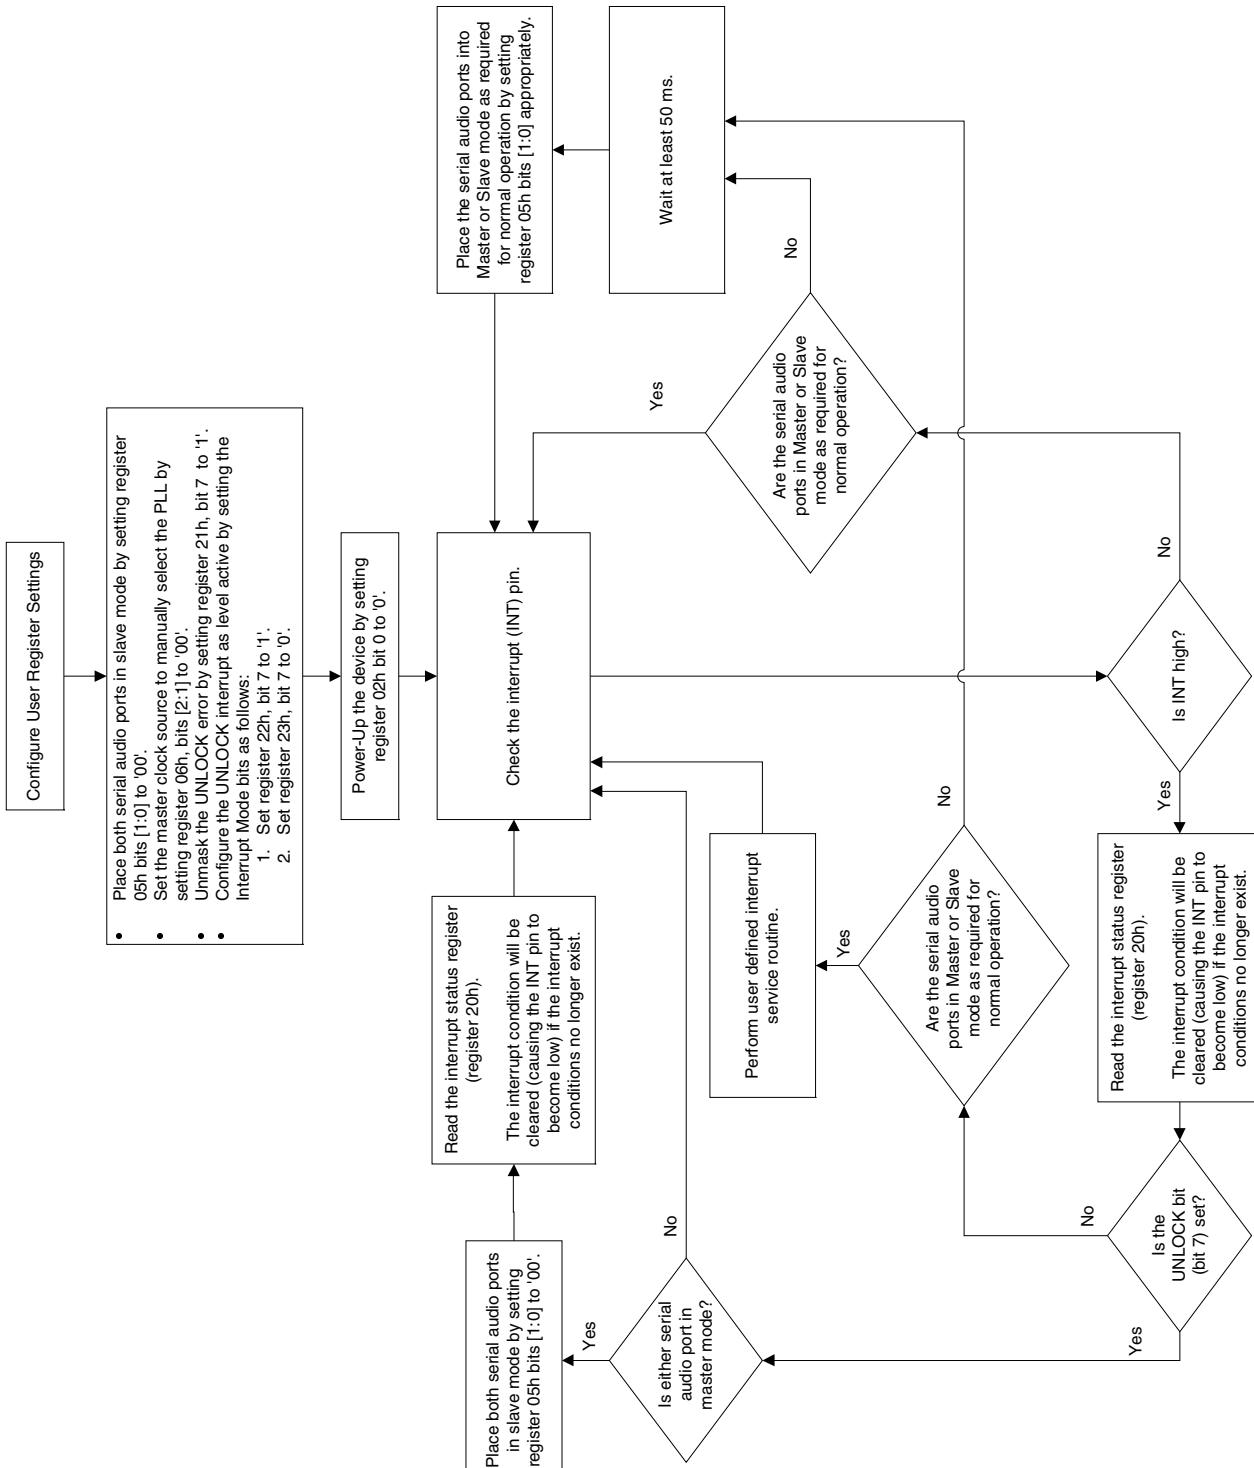
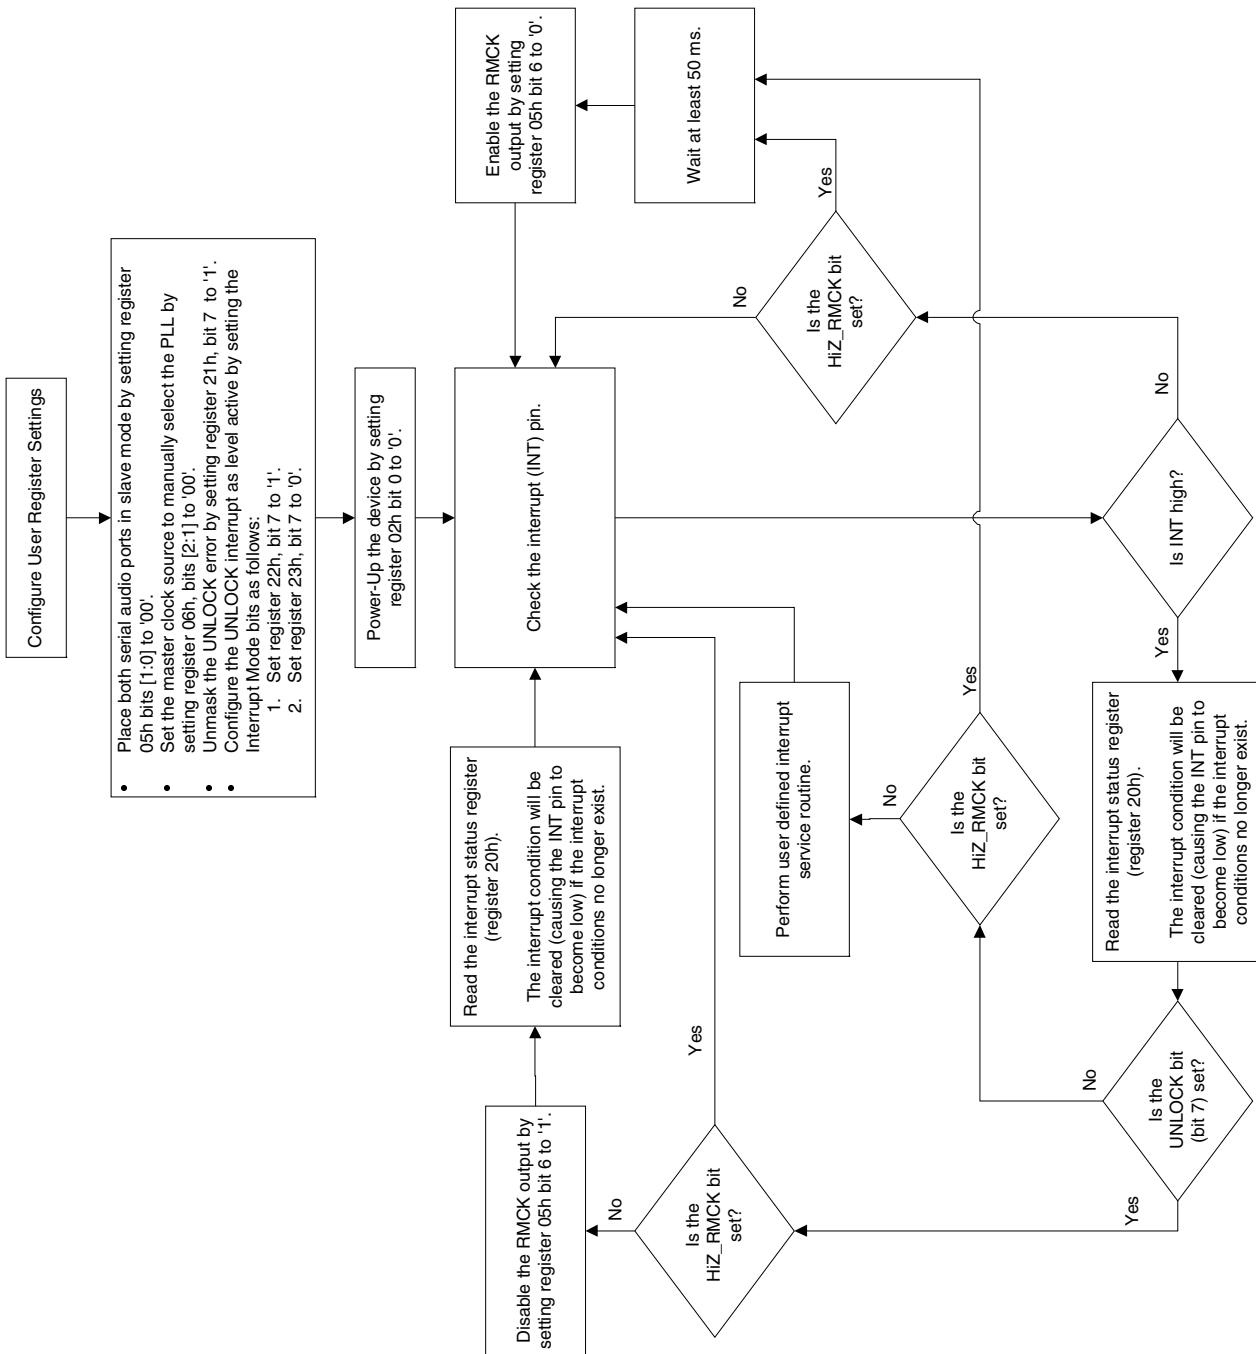

Figure 1. Master Mode Flowchart
Figure 2. Slave Mode Only Flowchart
2. A series of control-port reads and writes must be executed in accordance with the flowcharts shown on the attached pages. Figure 1 on page 2 applies to applications that use one or both of the serial ports in master mode. Figure 2 on page 3 applies to applications that use both of the serial ports in slave mode. In slave mode only applications, the RMCK pin should be terminated with a 47 kΩ resistor to GND such that its state is determinate when the HiZ_RMCK bit is set.